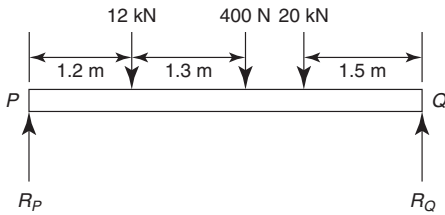

Figure 5.14
**Problem 9.** A beam  $PQ$  is 5.0 m long and is supported at its ends in a horizontal position as shown in Figure 5.14. Its mass is equivalent to a force of 400 N acting at its centre as shown. Point loads of 12 kN and 20 kN act on the beam in the positions shown. When the beam is in equilibrium, determine (a) the reactions of the supports,  $R_P$  and  $R_Q$ , and (b) the position to which the 12 kN load must be moved for the force on the supports to be equal.